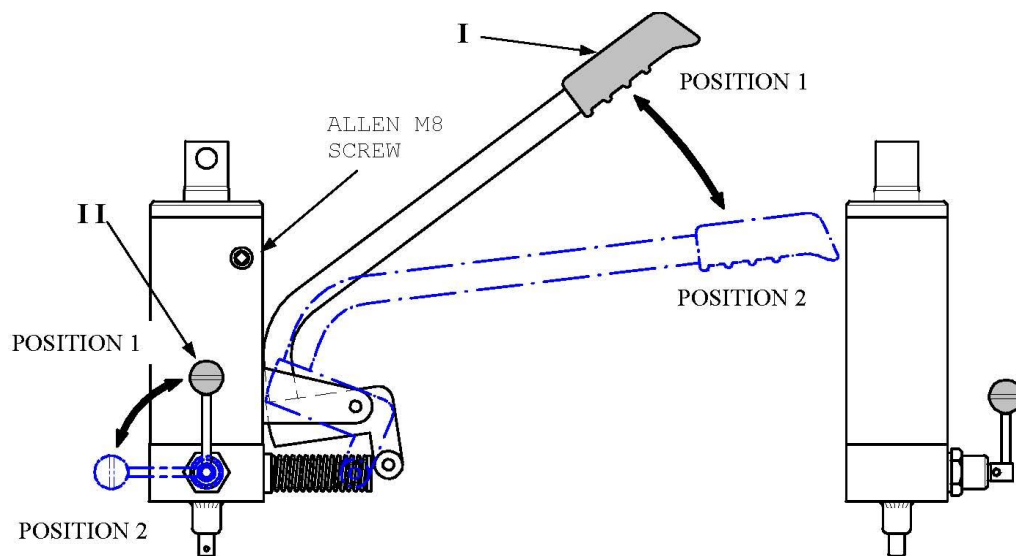

Fig. 2
- Loosen the **Allen M8 screw** situated on the cylinder (see Fig.2) and top up the oil through the hole until it overflows.